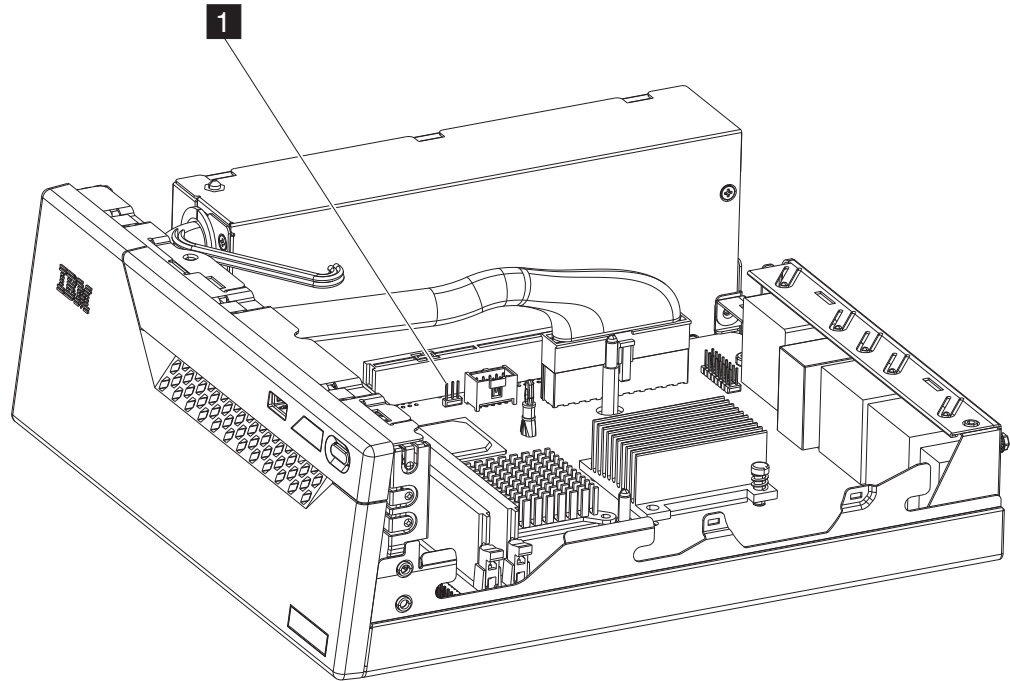

Figure 19. Locating and resetting the CMOS jumper
5. Locate the CMOS jumper **1** as shown in Figure 19.